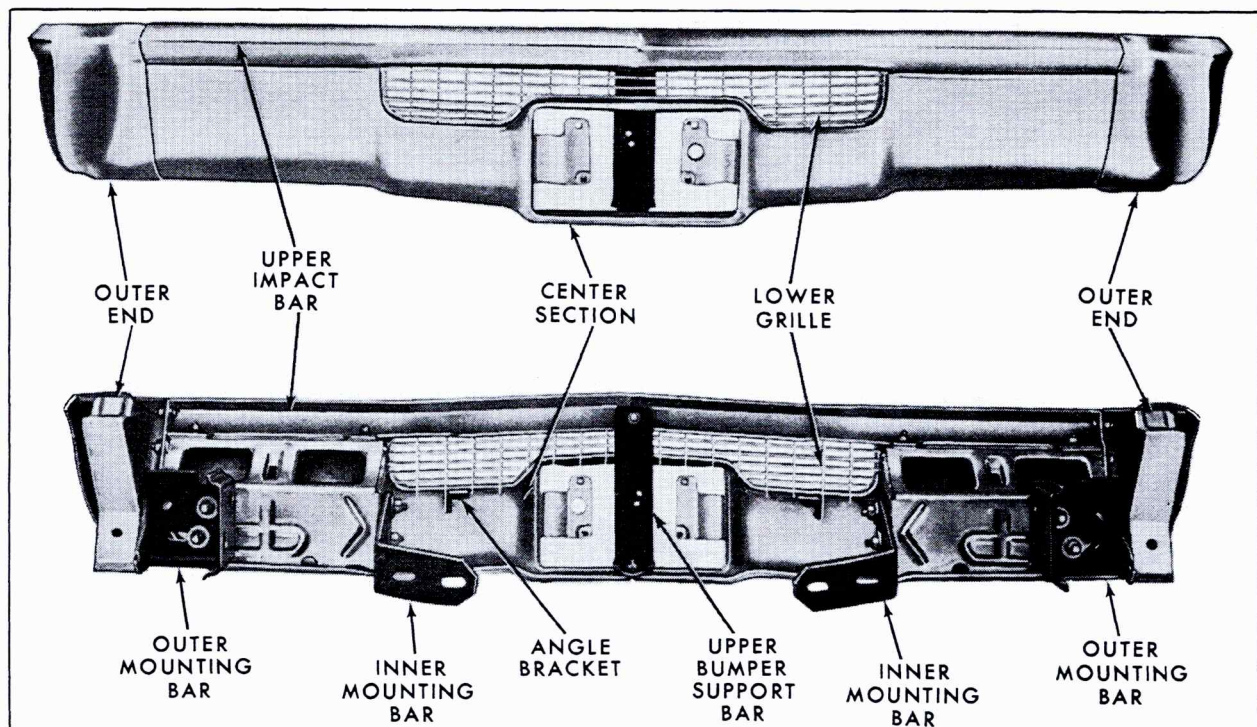

Fig. 14-5 Eldorado Front Bumper - Front & Rear View
The front bumper assembly for the Fleetwood Eldorado, Fig. 14-5, is of a four-piece design featuring a projecting lower center section, upper center impact bar, and projecting outer ends. A lower grille section is installed between the two center bars.
a. Removal (Fig. 14-5)
b. Installation (Fig. 14-5)